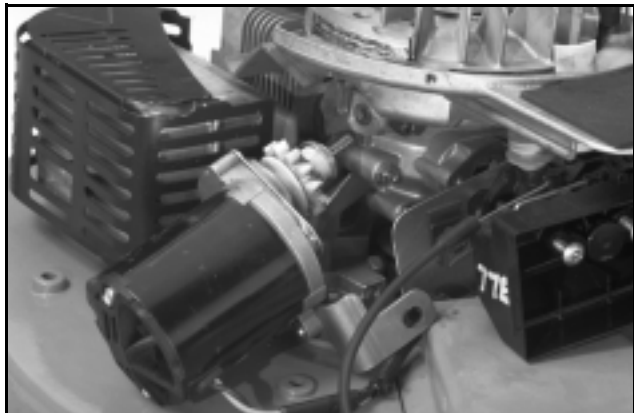

Figure 97
4. Remove the bolt that secures the lower bracket to the chassis. Remove the starter. While removing, be careful not to move the starter side to side as you may bend the pinion shaft. (See Figure 97.)